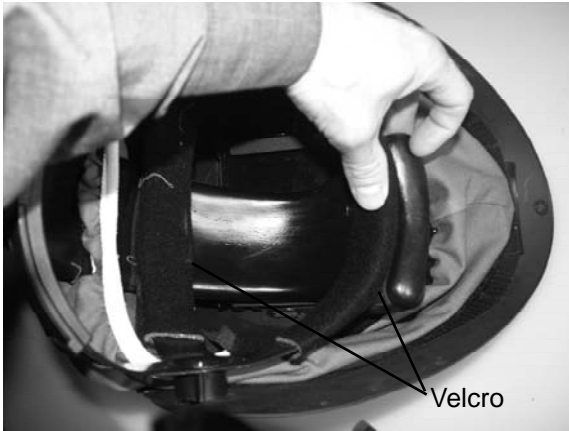

Figure 19
5. Thread the Airduct over the Headgear and attach to the front and top of the Headgear with the Velcro strips as shown (fig. 19).